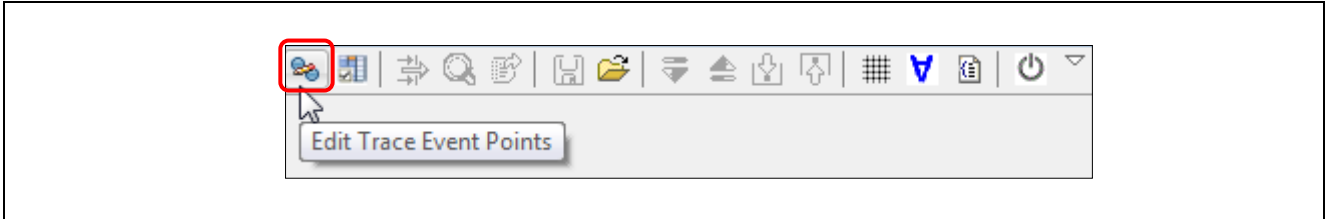

Figure 7 "Edit Trace Event Points" icon in the Trace toolbar
1. Double click "Edit Trace Event Points" icon available in the toolbar of the Trace window as shown in Figure 7.